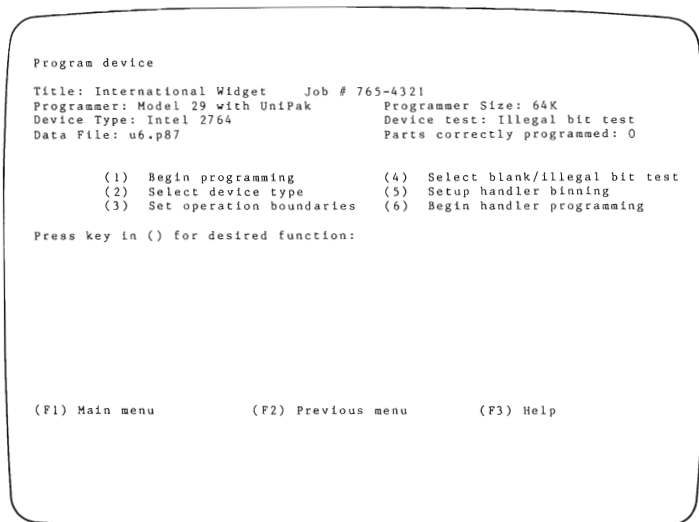

Figure 3-4. Program Device Menu
The *Program device* menu allows you to begin programming the device (1), select the device type to be programmed (2), set the operation boundaries (3), select the kind of testing to be performed on the device prior to programming (4), set up handler binning (5), and begin handler programming (6). (See figure 3-4.)